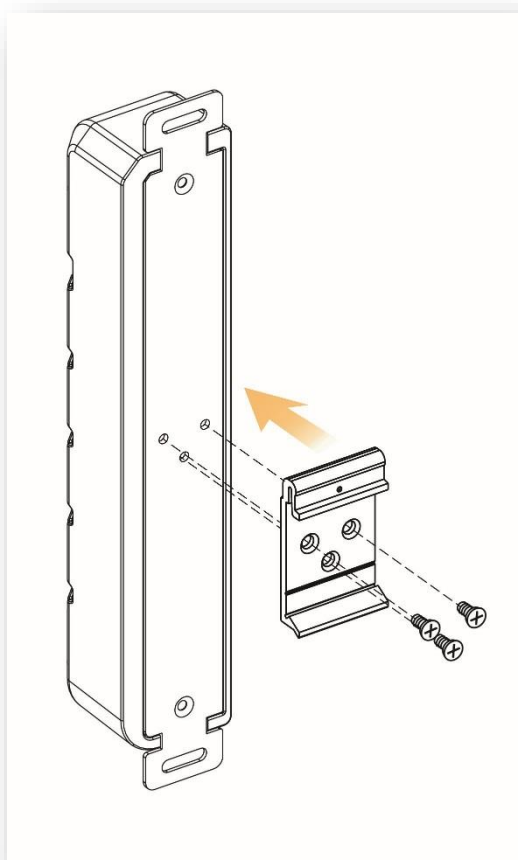

Figure 3.1
1. Use the screws to install the DIN-Rail bracket on the rear side of the industrial Ethernet switch as shown in *Figure 3.1*.